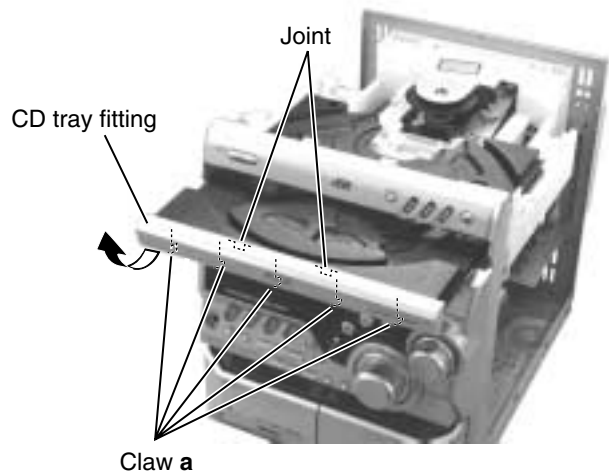

Fig.5
■ Removing the CD Tray fitting (2) (See Fig. 5 to 7)